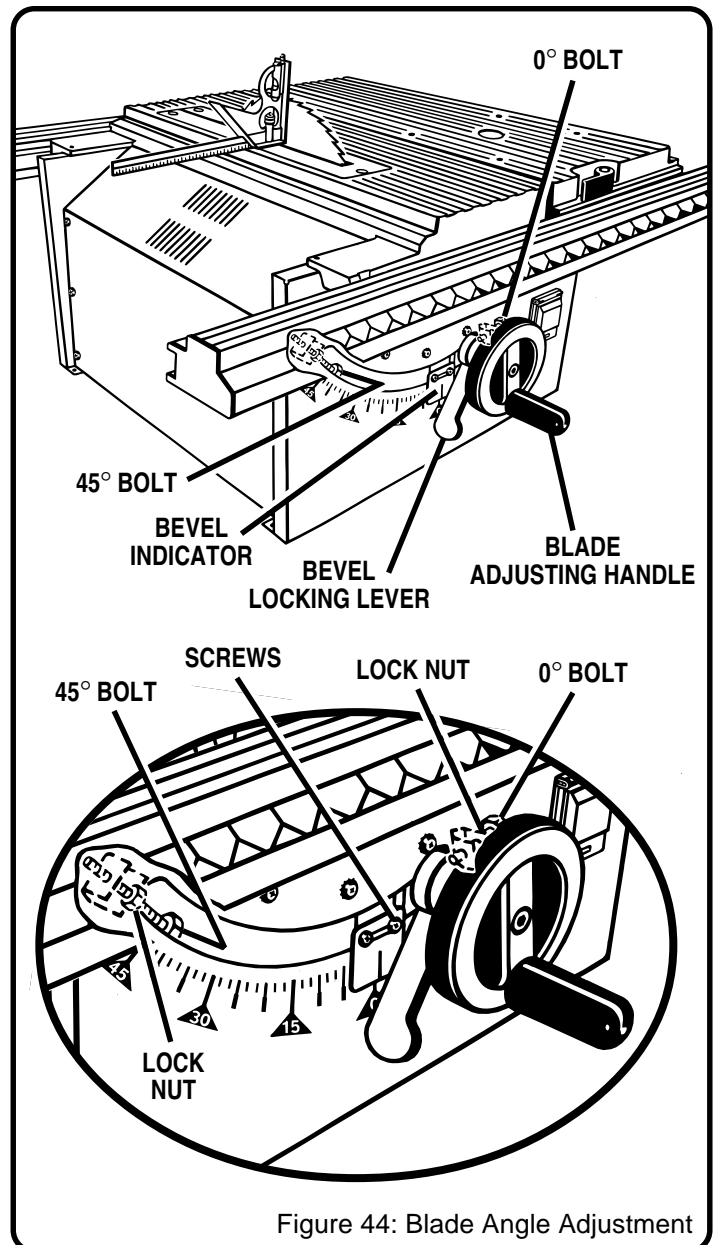

Figure 44: Blade Angle Adjustment
1. Push the bevel locking lever to the right. *See Figure 44.* Turn the blade adjusting handle to angle the blade. Use a combination square to check squareness between the blade and saw table.
2. If the blade is not perfectly vertical (0 degrees), loosen the lock nut on the 0 degree bolt inside the cabinet, position the blade, adjust the bolt, then re-tighten lock nut. *See Figure 44, insert.* If the bevel indicator is not at zero, adjust it with the two screws above the slot, beside the blade adjusting handle.
4. If the blade is not an exact 45 degrees, loosen the lock nut on the 45-degree bolt inside the cabinet, position the blade, adjust the bolt, then re-tighten lock nut. *See Figure 44, insert.*